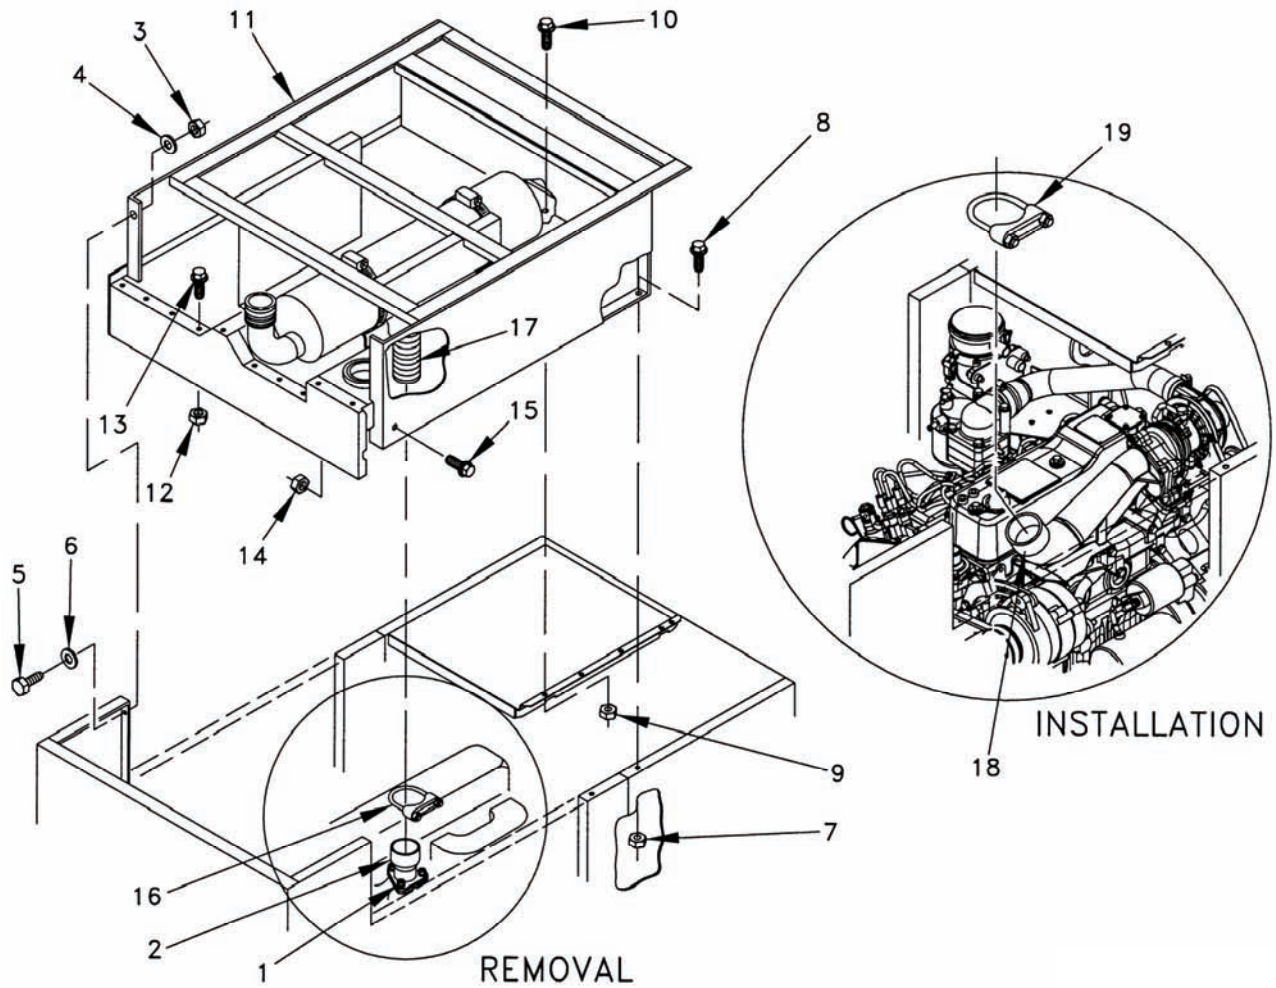

Figure 5-8. Top Housing Assembly.
- a. Remove three nuts (1, Figure 5-8) securing exhaust manifold adapter (2) to engine.
- b. Remove six nuts (3), lock washers (4), washers (6), and bolts (5) securing top housing assembly (11) to front housing assembly. Discard lock washers (4).
- c. Remove four assembled nuts (7) and bolts (8) securing top housing assembly (11) to rear side panels.
- d. Remove assembled nut (9) and bolt (10) securing top housing assembly (11) to output box angle.
- e. Remove 12 nuts (12) and bolts (13) securing top housing assembly (11) to support bracket.
- f. Remove two nuts (14) and bolts (15) securing top housing assembly (11) to end cover.
- g. Use lifting device and remove top housing assembly (11).
- h. Remove exhaust pipe clamp (16) and exhaust manifold adapter (2) from flexible muffler tube (17).